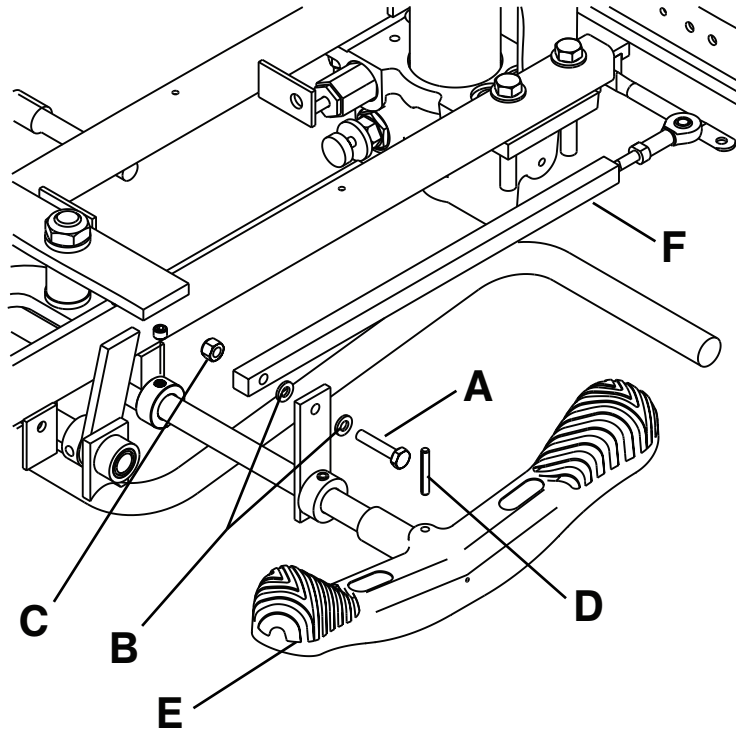

Figure 3 – Brake/steer pedal replacement
3. Using two 7/16" combination wrenches, remove the bolt (A), nut (C), and washers (B) that secure the square brake drive link assembly (F) on the brake actuator on both sides of the base (Figure 3). Save all parts.
5. Using a hammer and 3/16" punch, remove the groove pin (D) from the brake/steer pedal (E) (Figure 3). Make sure that you drive the groove pin out from the bottom of the pedal toward the top of the pedal. Discard the groove pin.